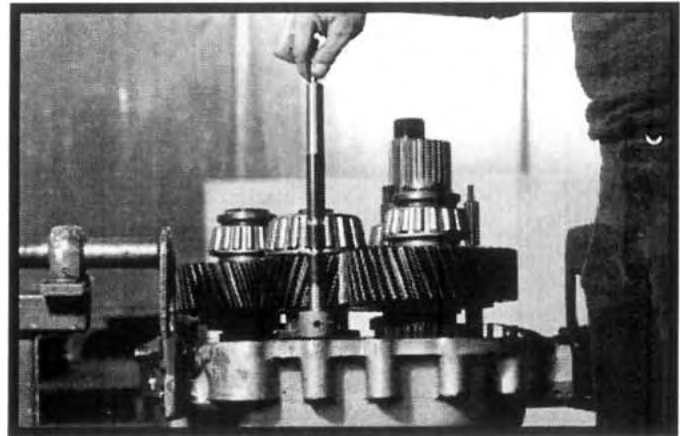

Figure 4.7
12. Cut the lockwires and remove the (2) shift fork screws from the high/low range shifter shaft. Lift the shifter shaft out. See Figure 4.7. Remove the (2) shift forks.